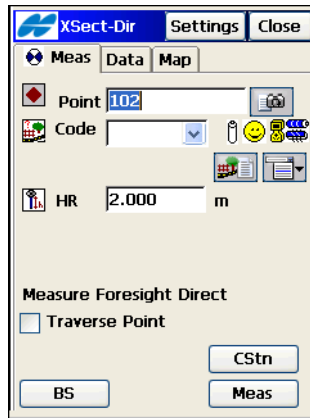

Figure 8-48. Xsect-Direct
3. In the *XSect-Dir* screen (Figure 8-48 on page 8-45) perform the usual observation work, relative to the cross-section, as described in “Measuring Sideshot Sets” on page 8-36. The only difference lies in the presence of the **Cur Stn** button, which makes the measurement, but unlike the **Meas** button does not store the point (Figure 8-48 on page 8-45).